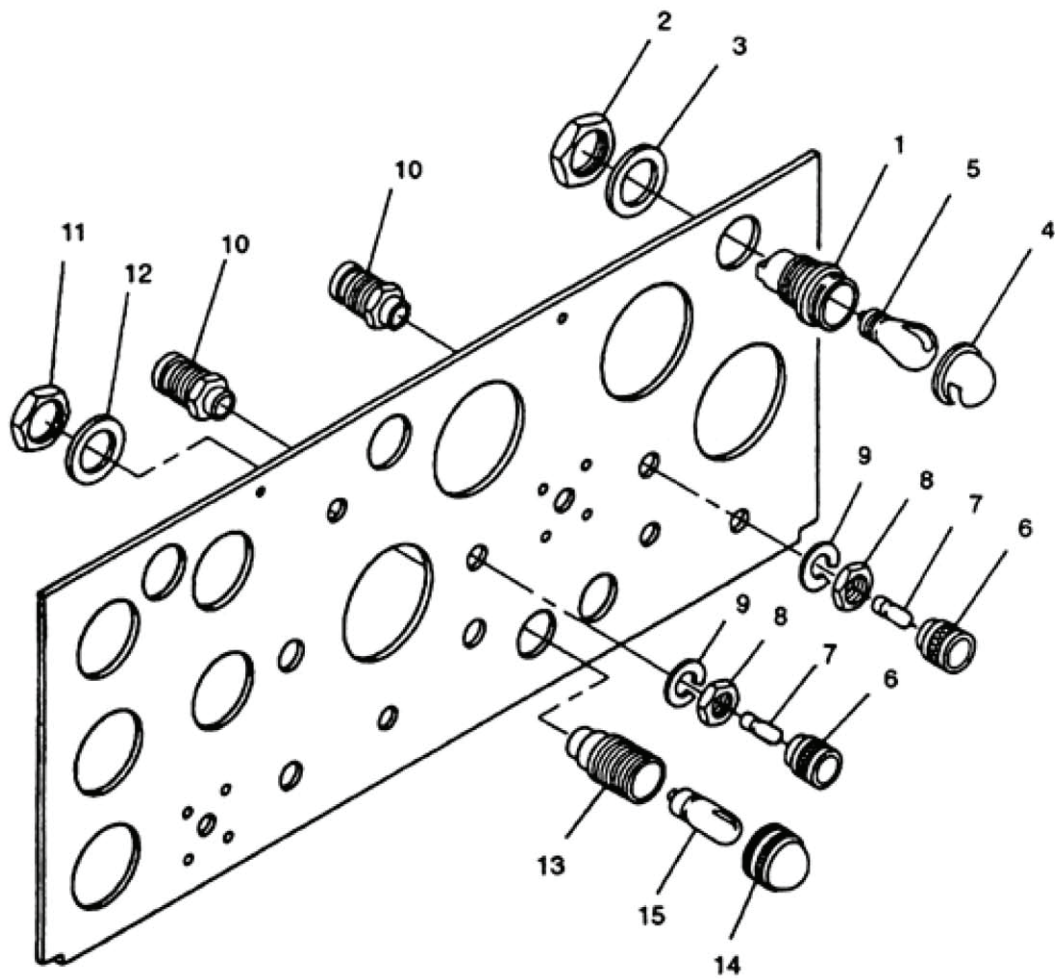

Figure 1. Control Panel Lights.
1. Remove panel light directional cap (Figure 1, Item 4) from panel light housing (1).
2. Remove panel light bulb (5).
1. Install panel light bulb (Figure 1, Item 5) into panel light housing (1).
2. Install panel light directional cap (4).
1. Insert panel light (Figure 1, Item 1) into control panel.
2. Install washer (3) and nut (2).
WP 0020, Figure 1, Items: 6 & 10
2. Press in lamp holders (WP 0020, Figure 1, Item 6) and check that lamps are illuminated.
3. If lamp (7) fails to light, perform Steps 4 through 5 below.
5. Set multimeter for DC volts and check for voltage at terminals 1 and 3 on receptacle (10).